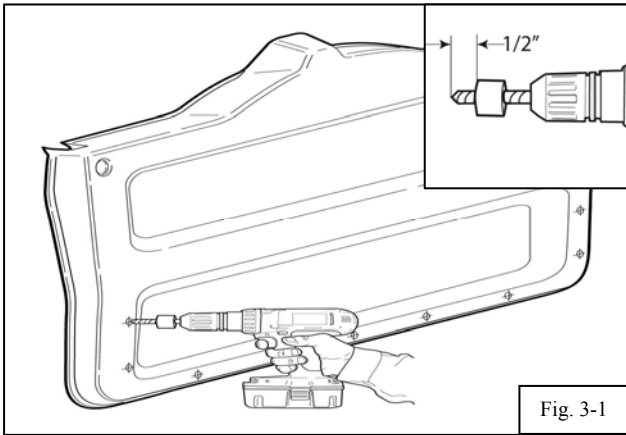

Fig. 3-1
(a) Using the 1/8" drill bit, pilot drill the (9) center punched hole locations. (Fig 3-1)
(1) Drill stop must be set at a maximum depth of 1/2".
(b) Using the 1/4" drill bit, enlarge the previously drilled pilot drilled holes. (Fig 3-1)